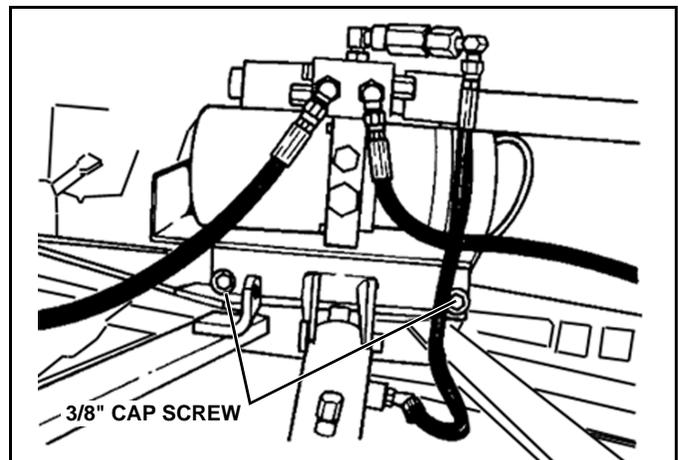

Figure 2-2
- remove the 3/8" Cap Screw and Lock Nut which holds the Lock Plate to the Pump Platform (See Figure 2-2)
- Remove the two hex head Cap Screws which fasten the pump Platform support to the plow A-Frame. (See Figure 2-2)
Apply LOCKTITE® 242 on the three 3/8" Cap Screws used to secure the Plate to the A-Frame (see steps 3, 4 and Figure 2-2). Torque to 35 lbs-ft.